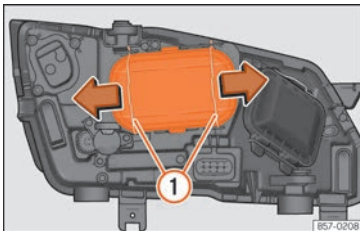

Fig. 53 In the engine compartment: remove the cover.
- Move the loops » **Fig. 53** ① in the direction of the arrow and remove the cover.